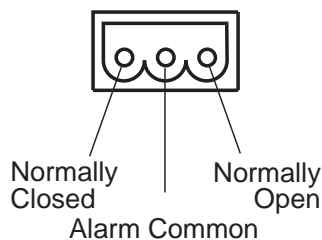

Figure 6. Rear Panel Alarm Contacts
The ALARM terminals are “dry” (isolated) alarm contacts that close (connect to the alarm common) when the Switchover Logic Board detects that operation has switched to the secondary radio. Figure 6 is shown in the *absence* of an alarm condition—the right pin is Normally Open (NO) and the left pin is Normally Closed (NC), with respect to the Common terminal.